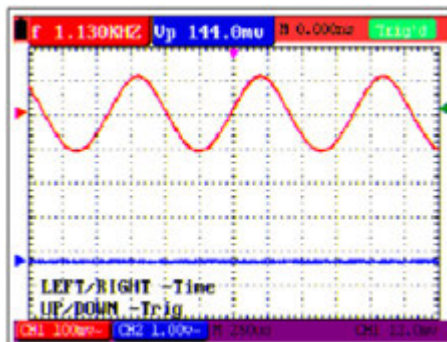

Figure 8.- Trigger level position.
9. Press “OSC OPTION” key once more and the following appears at the bottom left of the screen, shown as the following figure 8.